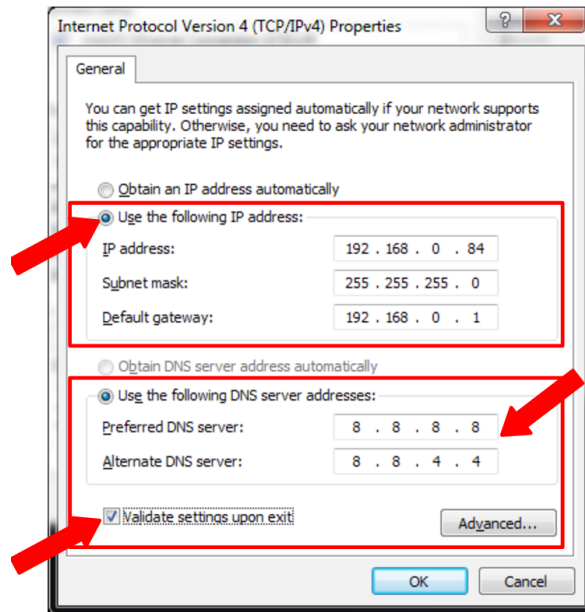

Figure 2.5: The complete static IP config on the TCP/IPv4 connection
6. In the “Internet Protocol Version (TCP/IPv4) Properties” window, turn on the radio button for “Use the following IP address:” and enter these settings (see Figure 2.5 for detail):
7. In the “Use the following DNS server addresses:” section, enter the following settings (Figure 2.5):
8. Turn on “Validate settings upon exit” with a check mark and click OK (Figure 2.5).